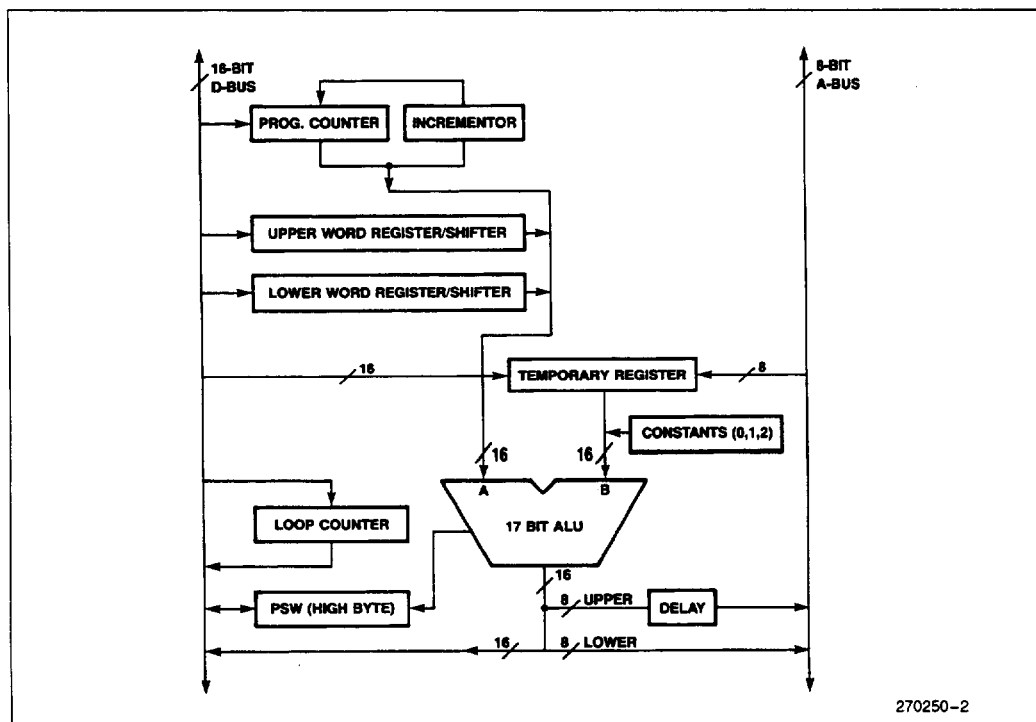

Figure 2. RALU Block Diagram
Most calculations performed by the 8X9X take place in the RALU. The RALU, shown in Figure 2, contains a 17-bit ALU, the Program Status Word (PSW), the Program Counter (PC), a loop counter, and three temporary registers. All of the registers are 16-bits or 17-bits (16+ sign extension) wide. Some of the registers have the ability to perform simple operations to off-load the ALU.
The DELAY shown in Figure 2 is used to convert the 16-bit bus into an 8-bit bus. This is required as all addresses and instructions are carried on the 8-bit A-Bus. Several constants, such as 0, 1 and 2 are stored in the RALU for use in speeding up certain calculations. These come in handy when the RALU needs to make a 2's complement number or perform an increment or decrement instruction.